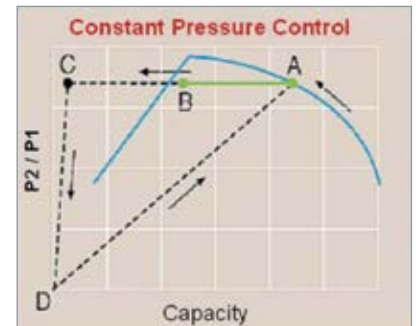

Fig. 2
**Constant Pressure Control (See Fig. 2)**
- At the surge control point (B), the position of the IGV is maintained fixed, the unloading valve starts to modulate open, and the excess compressed air is exhausted to atmosphere.